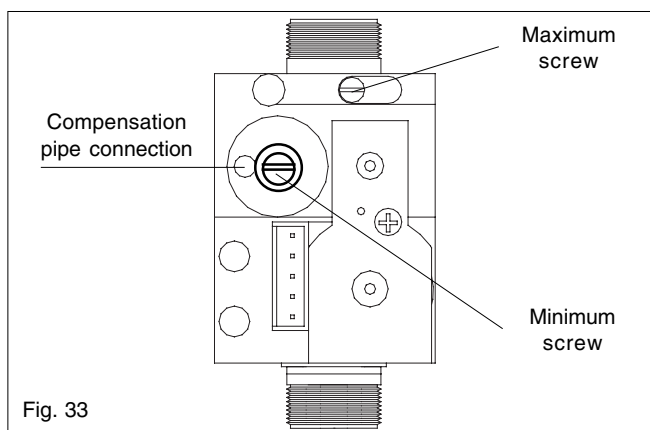

Fig. 33
- Using a suitable screwdriver, very slowly turn the maximum adjustment screw (see fig. 33) – clockwise to decrease, counter clockwise to increase – until the correct value is displayed on the CO₂ analyser (allow time for the analyser to stabilise).
- Using a suitable screwdriver, very slowly turn the minimum adjustment screw (see fig. 33) – clockwise to increase, counter clockwise to decrease - until the correct value is displayed on the CO₂ analyser (allow time for the analyser to stabilise).